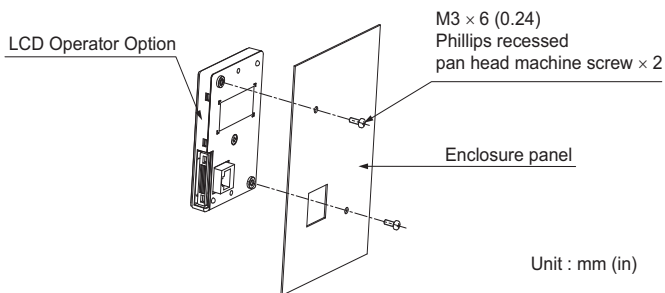

Figure 7 External/Face-mount Installation
2. Position the LCD Operator Option so the LCD display faces outwards, and mount it to the enclosure panel as shown in Figure 7.